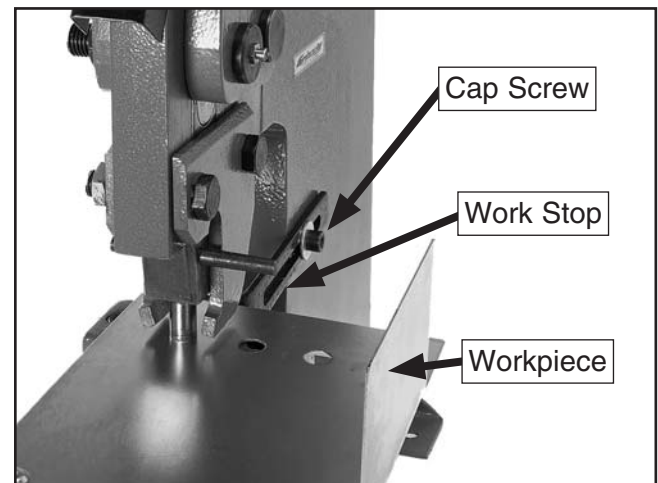

Figure 9. Work stops.
2. Once the cut is to your standards, lower the handle so that the punch goes through the hole you just made and into the die below (**Figure 9**).
3. Adjust the work stop as necessary to provide adequate support and proper alignment with the workpiece, then tighten the cap screw (**Figure 9**).